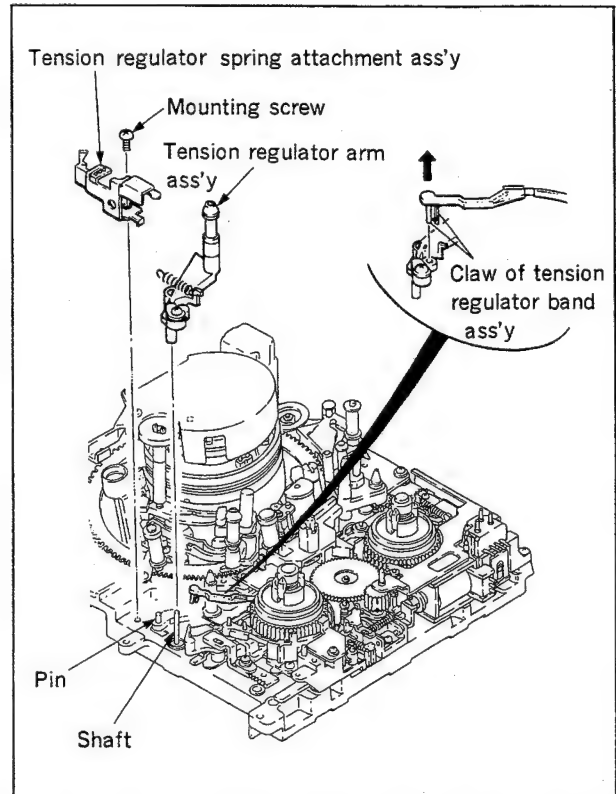

Fig. 4-17-2 Tension regulator arm ass'y replacement
3. **Tension regulator spring attachment ass'y removal (Fig. 4-17-2)**